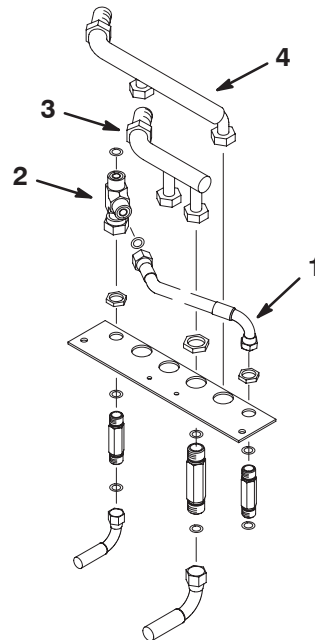

Figure 7
4. Install a Tee fitting to the bulkhead plate as shown in figure. 7.
5. Install bulkhead hose as shown in figure. 7.